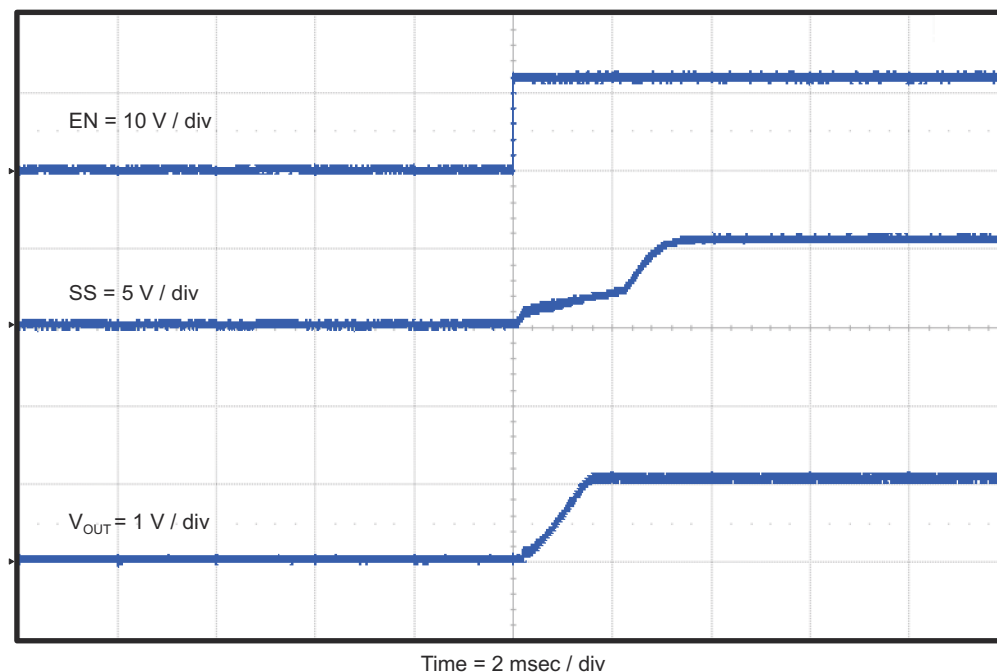
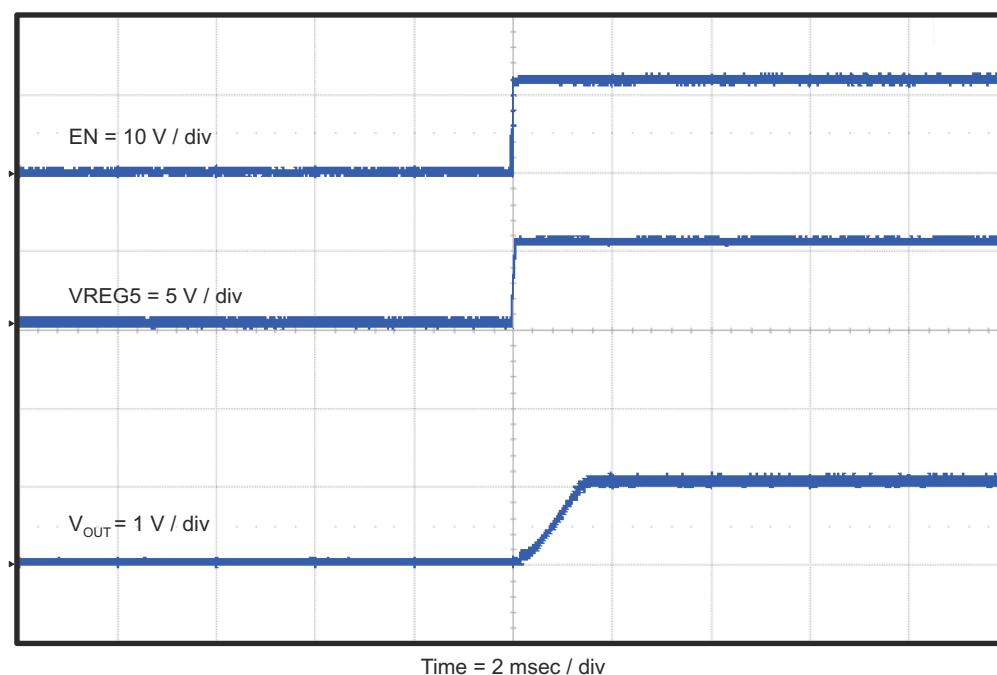

Figure 4-13. TPS54329EEVM-056 Start-Up Relative to EN With SS
Figure 4-14. TPS54329EEVM-056 Start-Up Relative to EN With VREG5
Figure 4-13 and Figure 4-14 show the TPS54329EEVM-056 start-up waveforms relative to enable (EN).